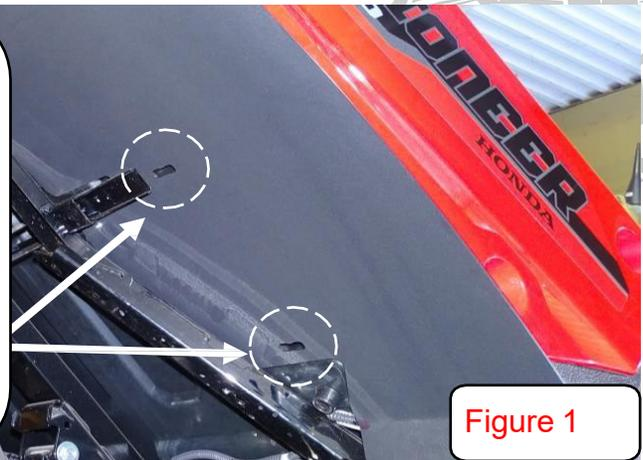

Figure 1
- 2) Place the upper rear fender flare under the dump bed and insert the slotted portion of the inner fender above the sub-frame as shown (Figure 1)